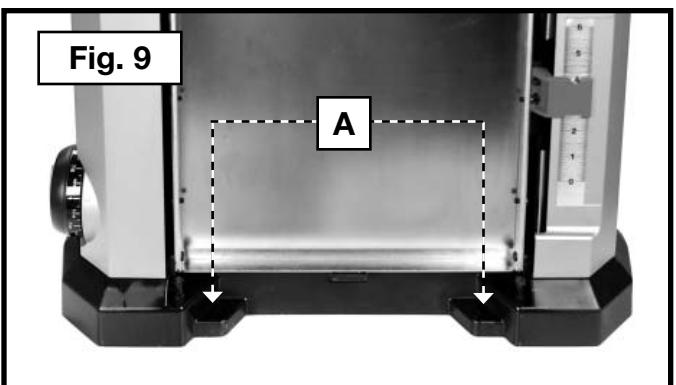

Fig. 9
CAUTION Before operation, secure the planer to the supporting surface. Four holes (two of which are shown at (A) Fig. 9) are provided for this purpose.
Four attachment holes are provided for mounting the planer to a stand or work surface. These holes are located under the infeed and outfeed tables as shown in Fig. 9.